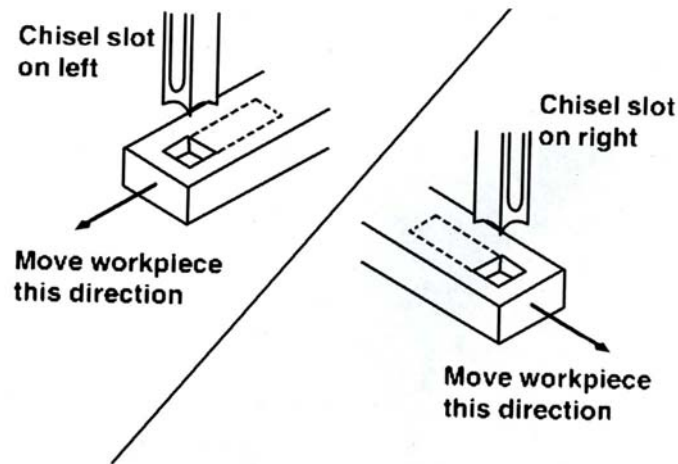

FIGURE 6
5. After the first cut, the workpiece is moved along with the left handwheel for each successive cut. The direction of movement must allow the chips to clear freely. Move the workpiece so that the slot in the chisel is releasing chips into the already cut part of the workpiece. See Figure 6.